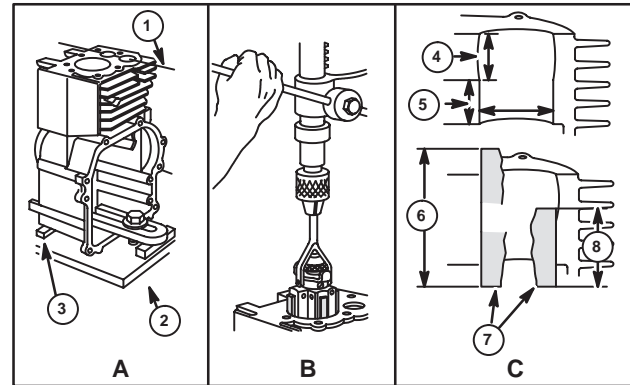

Fig. 2
2. Fasten cylinder to a heavy iron bracket or use honing plate (2), Fig. 2, Illustration A. Some cylinders require shims (3).
3. Use a level to align drill press spindle with bore (1).
6. Slip hone into cylinder, Fig. 2, Illust. B.
7. Connect drive shaft to hone and set stop on drill press so hone can only extend 3/4" (19 mm) to 1" (25 mm) from top and bottom of cylinder, Fig. 2, Illust. C. If using a portable drill, cut a wood block to place inside of cylinder as a stop.
4. Start drill and, as hone spins, move it up and down at lower end of cylinder. Fig. 2, Illust. C.